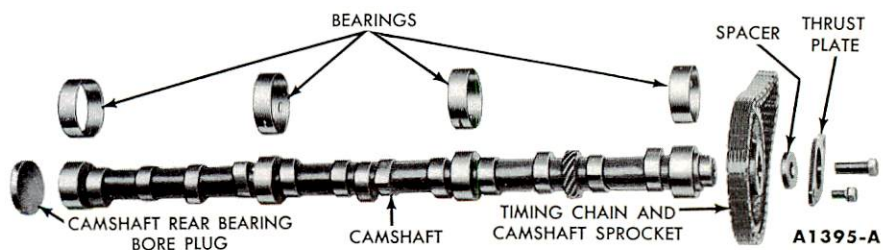

FIG. 43—Camshaft and Related Parts
5. The camshaft and related parts are shown in Fig. 43. Oil the camshaft and apply Lubriplate to all camshaft lobes. Carefully slide the camshaft through the bearings.